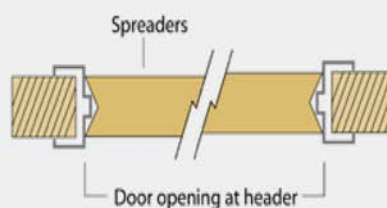

Figure 2: Spreader
- 4 Install temporary spreaders as shown in Figure 2, at the center and at the bottom location of the frame. The spreader dimension should be the same as the door opening width. This will prevent the frame from bowing inside the opening when building the surrounding wall.